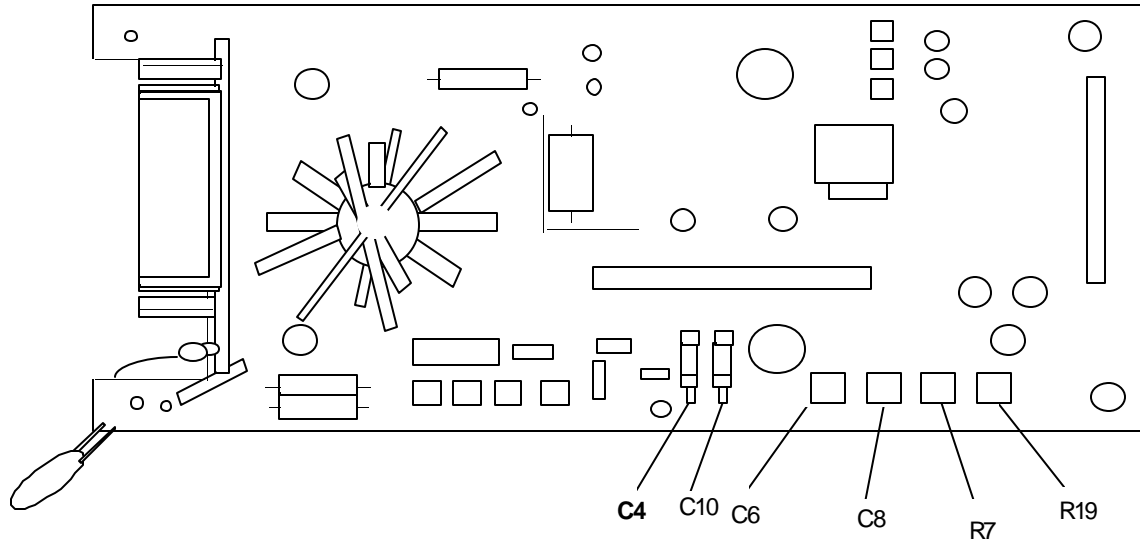

Figure 1. Adjustment locations.
- (1) Set function switch to  $\overline{V}$ .
- (2) Adjust calibrator for output of 3.000 V dc.
- (3) Adjust DC VOLTS R19 (fig. 1) until TI indicates 3.000 V dc (R).
- (4) Repeat a(2) through (4) above.
- (1) Set function switch to V $\sim$ .
- (2) Press **RANGE**  pushbutton for 3 V range.
- (3) Adjust calibrator for 3.000 V output at 100 Hz.
- (4) Adjust R7 (fig. 1) for 3.000 V ac indication on TI (R).
- (5) Repeat **a**(1) through (3) above.